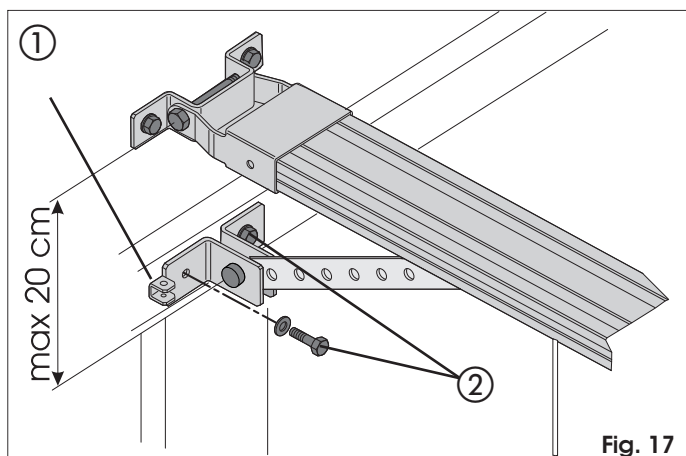
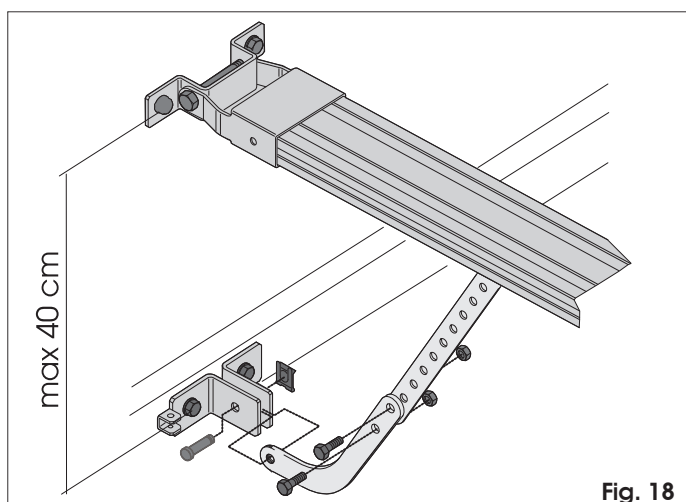

Fig. 17
Fig. 18
Position the fitting on the door so that the through-element of the release cable is facing toward the left side of the door (ref. ① Fig. 17).
- 4) Make sure that the distance between the between-centres of the securing holes of the front fitting and the on-door fitting does not exceed 20 cm (Fig. 17). To ensure correct operation of the automated system, we advise you to avoid arm inclinations of over 30° compared to the sliding guide. If using the curved arm for sectional doors (optional), carry out the assembly with the straight arm of the carriage as shown in Fig. 18. To improve efficiency of the anti-crushing system, we advise you to secure the fitting on the sectional door as low as possible, without, however, exceeding the distance of 40 cm from the operator's front fitting.
- 5) Mark, drill and secure the fitting to the door, using the screws (ref ② Fig. 17) **NOT** supplied.